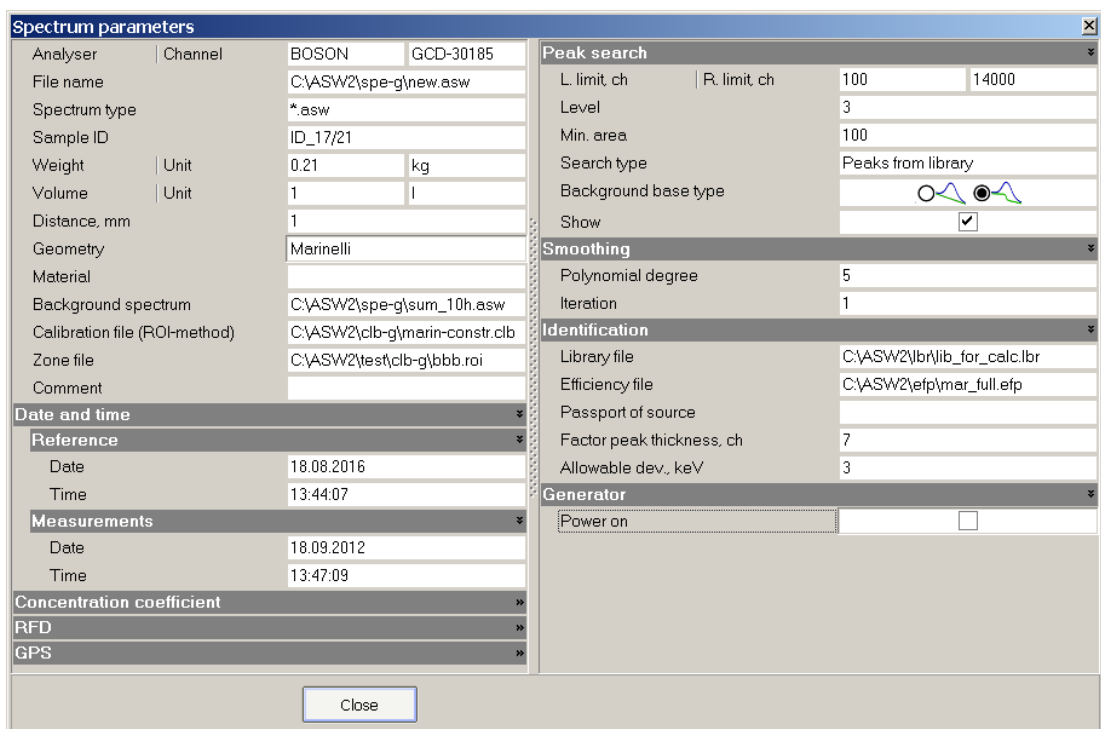

Figure 20. Spectrum parameters window view
If the user needs to enter or edit parameters of the measured spectrum after the measurement has ended, this should be done in the **Spectrum parameters** window (see Fig. 20), which can be opened by pressing  on the toolbar of the spectrum window. Changes in parameters of any reopened spectrum are made in the same way.
- button for displaying spectrum parameters as shown on Figure 20.